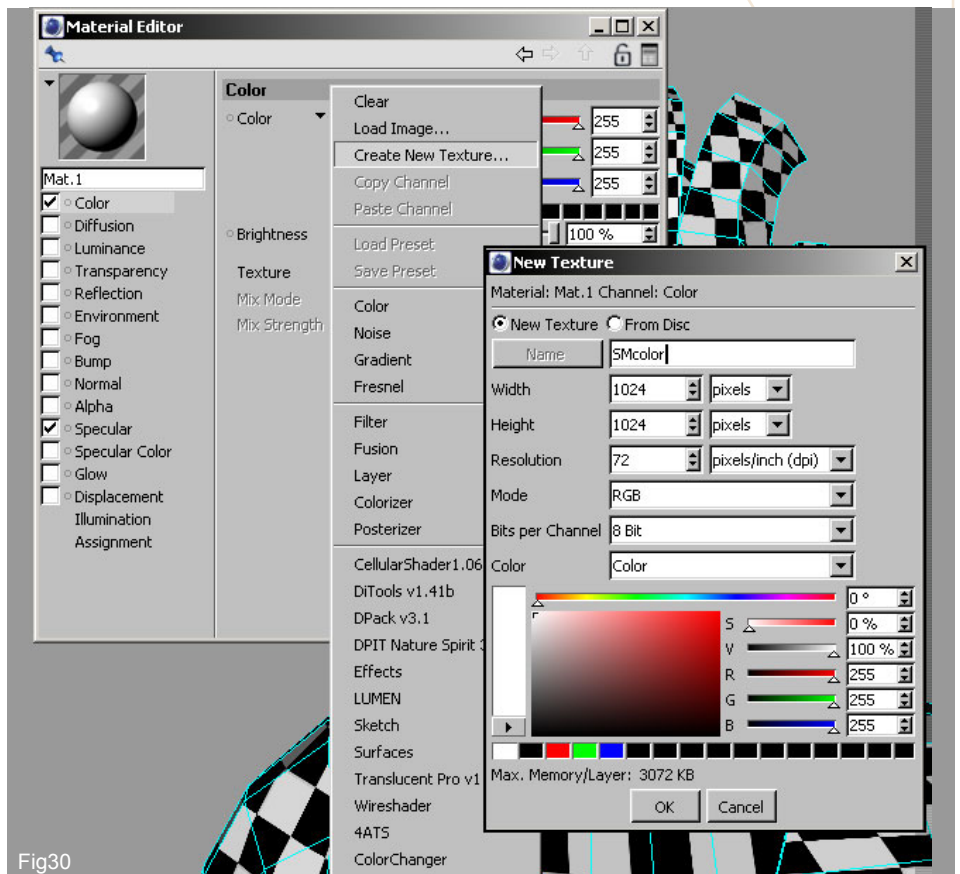

Fig30
30. This concludes the mapping section of the exercise and now we need to assign a material to our mesh in preparation for texturing by dragging the material onto each and every mesh. Go in Material Manager and create a new material. In this material create a new Texture. Fig.30. Assign a name and the size of your texture, this will create a PSD file which will be edited with Photoshop. Assign this last material to our model replacing the checkerboard texture. The model will appear white.